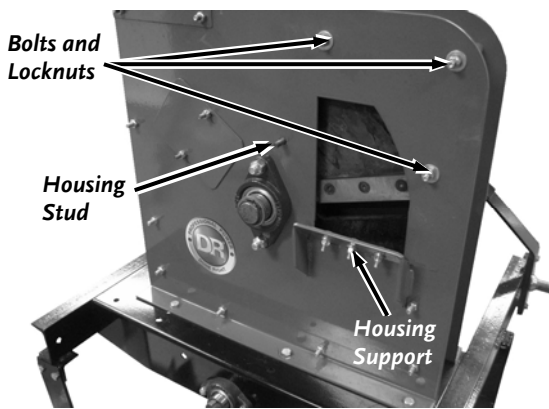

Figure 4
1. Remove and discard the three Shipping Nuts from the Housing Bolts with two 1/2" Wrenches, but leave the Housing Bolts in place (**Figure 4**).